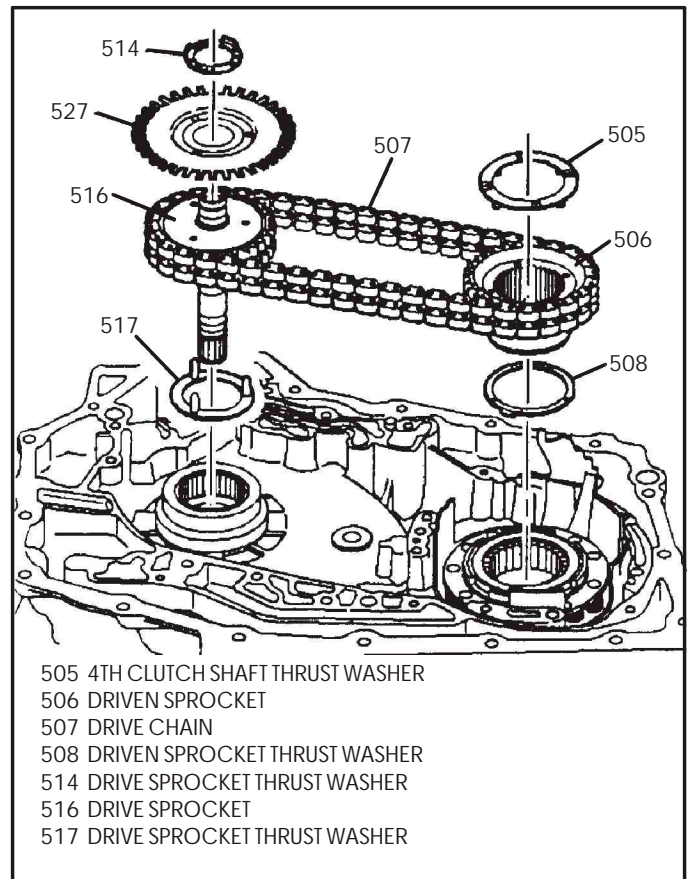

Figure 67
8. Remove the 4th clutch shaft thrust washer (505) as shown in Figure 67.
10. Remove the drive sprocket to channel plate thrust washer (514). It may be stuck to the channel plate. Refer to Figure 67.
11. Remove the input speed sensor reluctor wheel from the drive sprocket (See Figure 67).
12. Note the location of the master link on drive chain assembly. It is one link that is a different color than the rest. It may be facing up or down and must be in the same position for assembly. Refer to Figure 67.
13. Lift the drive and driven sprockets and drive chain assembly straight up out of the transaxle case, as shown in Figure 67.
15. Remove the drive sprocket thrust washer (517) and the driven sprocket thrust washer (508), as shown in Figure 67. They may be stuck to the sprockets.